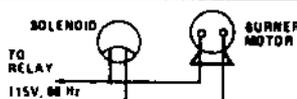

FIGURE 3
**DISCONNECT POWER SUPPLY BEFORE WIRING TO PREVENT ELECTRICAL SHOCK OR EQUIPMENT DAMAGE.** Lead wires on these devices are long enough to reach the junction box on most burner installations. Wire solenoid in parallel with burner motor (See Figure 3). All electrical work should be done according to local and national codes. (Solenoid 115V, 0.1A, 60 Hz)